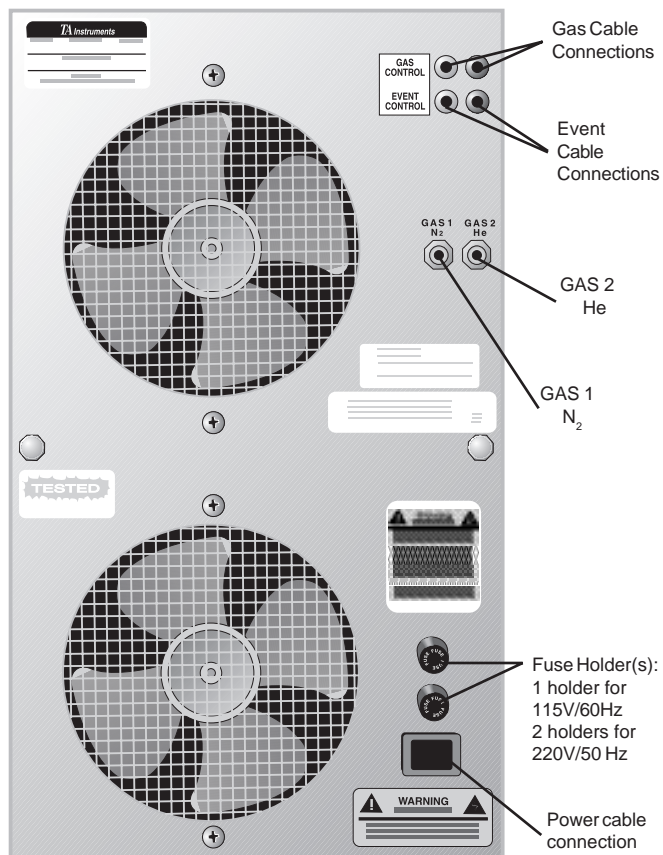

Figure RCS.9
1. Turn the RCS cabinet around so that you can easily see the back panel. Locate the connections shown in Figure RCS.9.